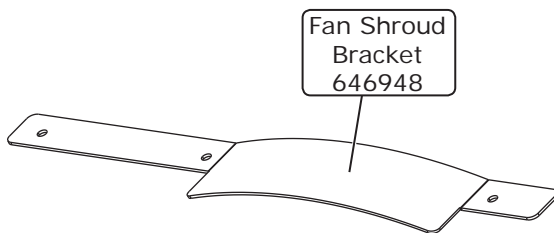

Figure 1
1. Place the fan shroud bracket onto the inside of the fan shroud as shown in Photos 1 & 2, and Figure 1, below, using clamps or vise grips to hold it in place. Align the bracket with the contours of the shroud as shown.
2. Drill (3) 3/16" holes into the fan shroud using the fan shroud bracket as a template (See Photo 2, below).
3. Install (3) 3/16" pop rivets to secure the bracket onto the fan shroud (See Photo 3, below).
4. Remove the radiator by removing (4) bolts.
6. Place the radiator into position in the engine compartment. Align the holes on the fan shroud, radiator, and core support. Secure the shroud and radiator to the core support using the (4) OEM bolts (See Photo 5, below).